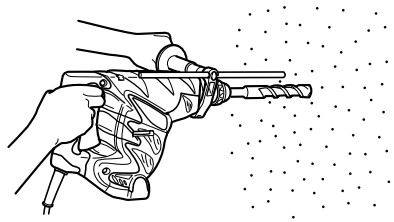

Fig. 5
- (1) Mount the drill bit.
- (2) Pull the trigger switch after applying the drill bit tip to the drilling position (Fig. 5)
- (3) Pushing the rotary hammer forcibly is not necessary at all. Pushing slightly so that drill dust comes out gradually is just sufficient.
- **When the drill bit touches an iron reinforcing rod, the bit will stop immediately and the rotary hammer will react to revolve. Therefore please grip the side handle and handle tightly as shown in Fig. 5.**